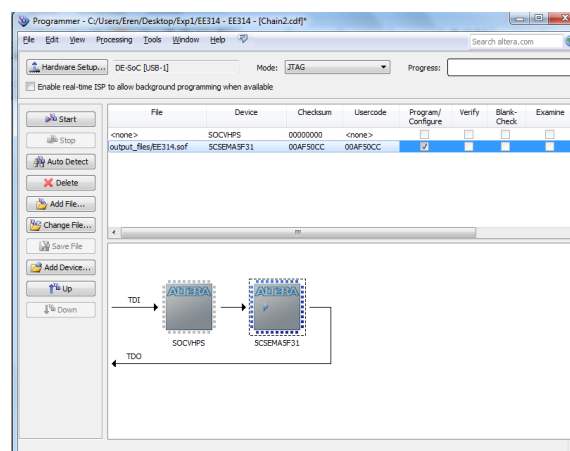

Fig. 16: Programmer window after step 5
- H.6) Click on OK. Then click on **Program/Configure**. Programmer window should look as seen in Fig. 16.